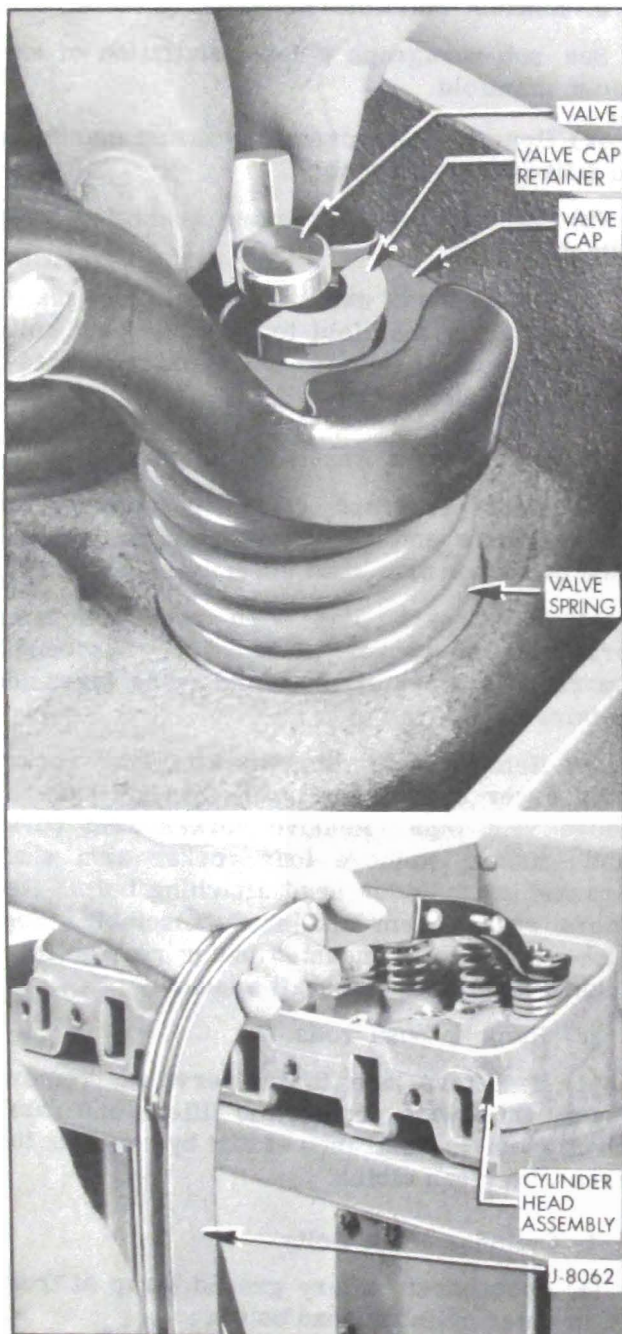

Figure 2-16—Removing and Installing Valve Cap Retainers
2. Using suitable spring compressor, such as J-8062, compress valve spring and remove cap retainers. Release tool and remove spring and cap. See Figure 2-16.